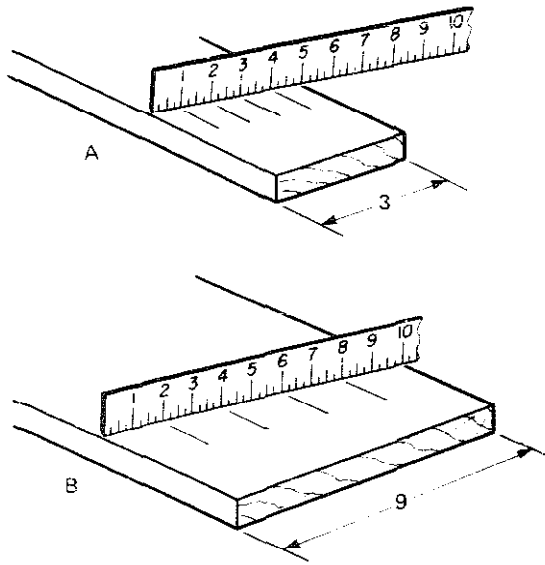

Fig. 4-52 Using a rule to divide boards into equal parts
1. Place the rule diagonally across the surface of the stock so that the distance from edge to edge can be evenly divided by the number of desired parts. Figure 4-52, A, shows a 3-inch board divided into 5 equal widths. To divide a 9-inch board into 5 equal parts, place the rule diagonally across the surface as at B, figure 4-52. Since the diagonal is 10 inches, and 5 parts are desired, mark along the diagonal at each 2 inch interval.